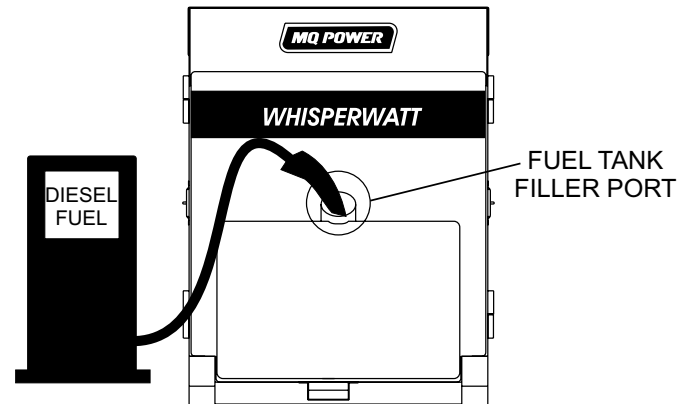

Figure 30. Fueling the Generator
2. Remove fuel cap and fill tank as shown in Figure 30.